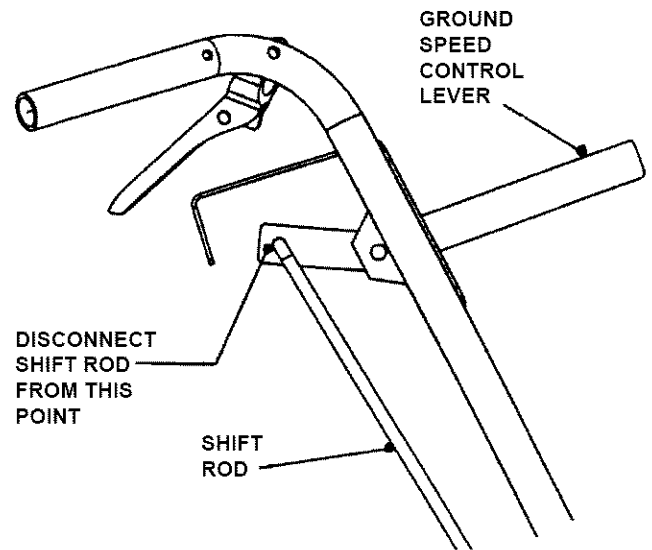

FIGURE 5.5
1. Disconnect the hair pin from shift rod that connects to the ground speed control lever. See Figure 5.5.